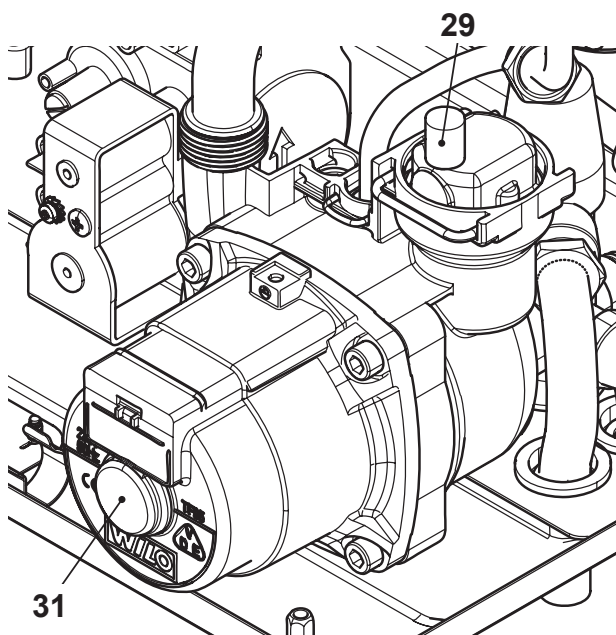

Fig. 7.2
- Lift the plug on the automatic air purger valve 29 in Fig. 7.2 and leave open permanently.
- Purge the air from the pump by unscrewing the pump plug 31 (Fig. 7.2); release the pump shaft by turning in the direction indicated by the arrow on the information plate.